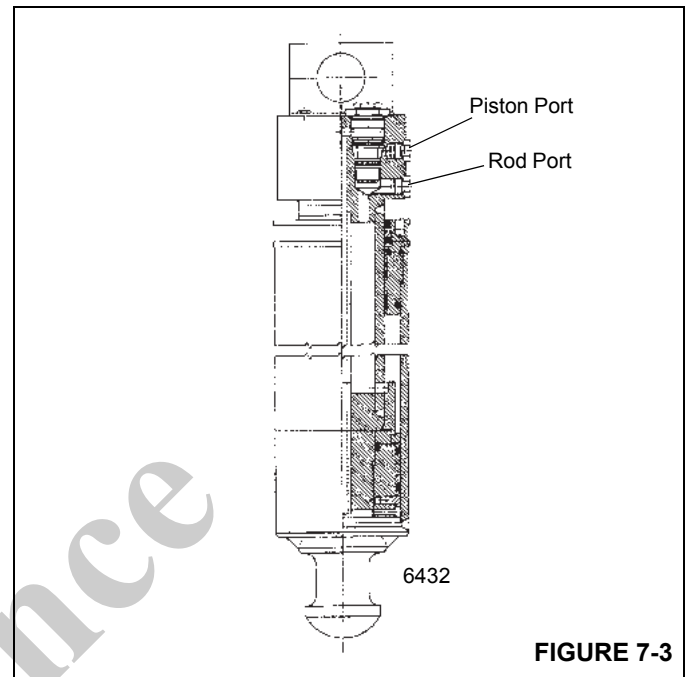

FIGURE 7-3
2. Remove the rod side cylinder hose from the suspected leaking jack cylinder (see Figure 7-3). Oil will flow until the cavity in the cylinder port block empties. Once the port block cavity empties, oil should stop flowing from the rod side port.
2. Remove the piston side cylinder hose from the suspected leaking jack cylinder (see Figure 7-3). Oil will flow until the cavity in the cylinder port block empties. Once the port block cavity empties, oil should stop flowing from the piston side port.